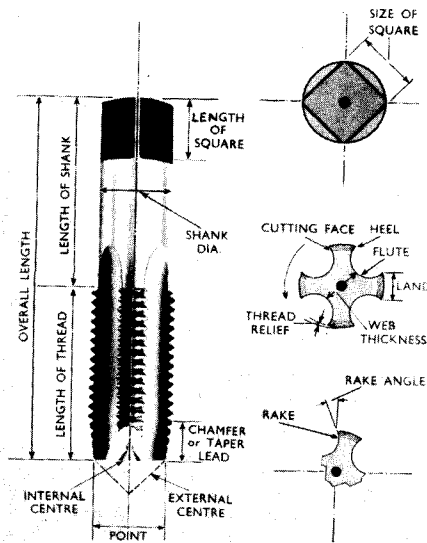

Fig. 4.90 The tap used for cutting internal threads
1. *Internal threads.* Taps are used for cutting internal threads. The names of the various parts are shown in Fig. 4.90.